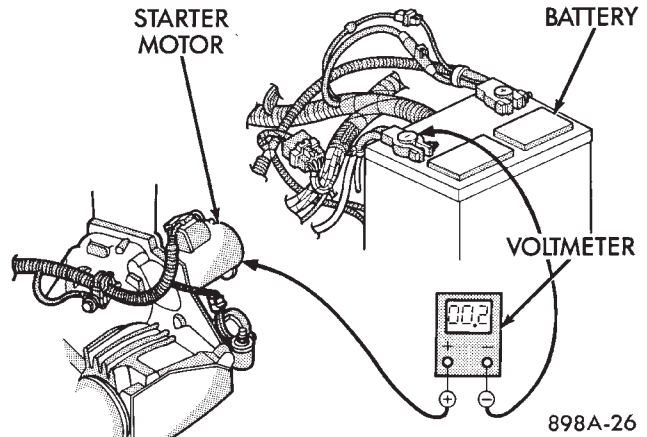

Fig. 6 Test Starter Ground - Typical
(5) Connect the positive lead of the voltmeter to the starter housing. Connect the negative lead of the voltmeter to the battery negative terminal post (Fig. 6). Rotate and hold the ignition switch in the Start position. Observe the voltmeter. If the reading is above 0.2 volt, correct the poor starter to engine block ground contact.